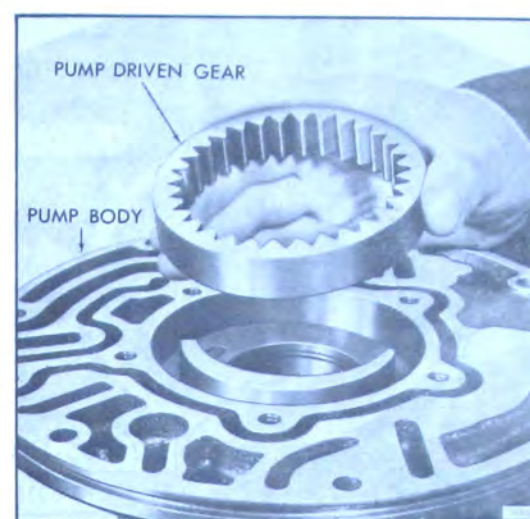

Figure 74-627
12. Remove driven gear from pump body. See Figure 74-627.